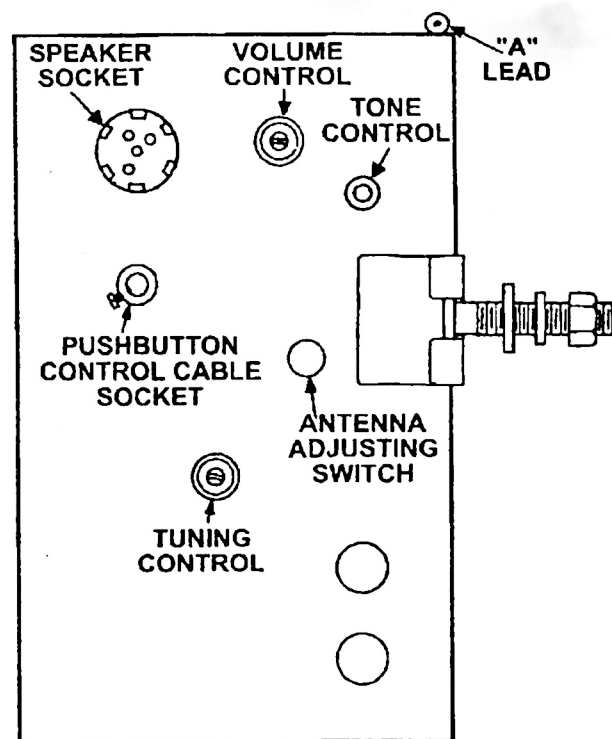
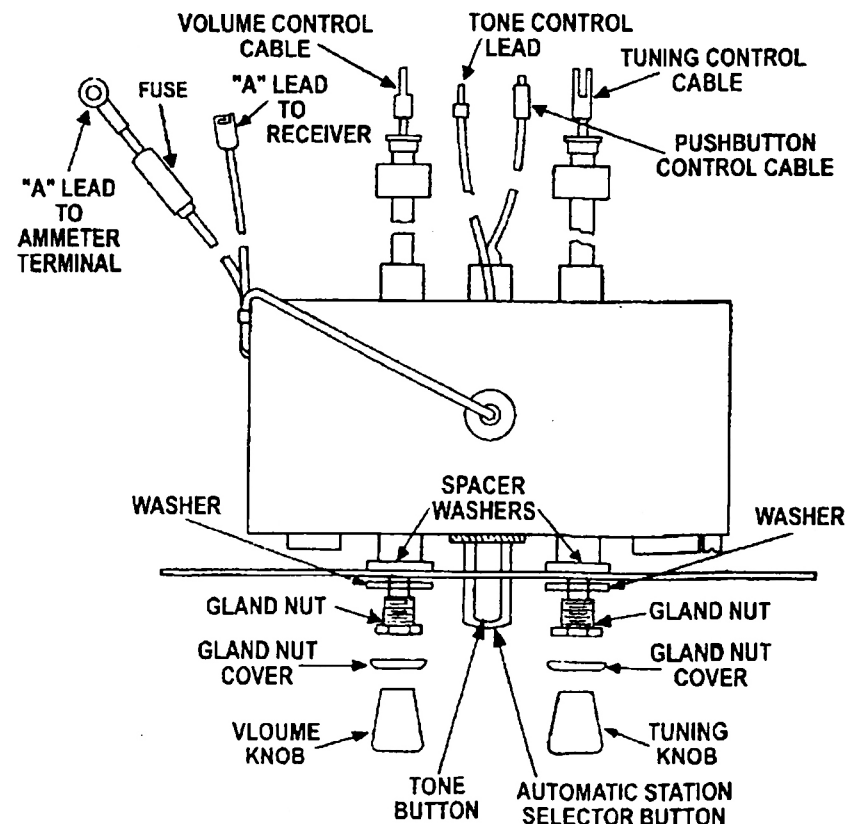

FIG. 3
FIG. 2
Bolt the control head and face plate to instrument panel using the two thin washers, included with this radio, between the gland nuts and the control shaft bushings (see Fig. 2). The gland nuts screw into the control shaft bushings and hold the control head and face plate in position.
The tenite face plate used in these models must be slipped into position from the side. In order to do this push the control head back until the shafts do not project out of the holes in the panel, then slide the face plate into position from the glove compartment side. Bolt the control head and face plate to the instrument panel using the two thick washers, included with this radio, between the gland nuts and the control shaft bushing (see Fig. 2). The gland nuts screw into the control shaft bushings and hold the control head and face plate in position.
11. Place the gland nut covers over the gland nuts (see Fig. 2) and then slide the two control knobs on the control shafts.
1. Insert the volume control cable in its proper coupling on the receiver case (see Fig. 3). As you do this, turn the volume (**LEFT**) knob to be sure the shaft engages, then tighten the shaft coupling collar at the receiver case.
2. Turn the tuning (**RIGHT**) knob, on the control head, clockwise until you reach appreciable resistance. Then turn this knob counter-clockwise one whole turn. Insert a small screwdriver in the coupling hole for the tuning shaft on the receiver case. Turn the slotted shaft in the tuning shaft bushing *clockwise* until you reach a stop. Then insert the flexible tuning control cable (see Fig. 2) into its coupling in the side of the receiver case (see Fig. 3). Turn the knob slightly clockwise until the shaft end engages and then tighten the shaft coupling collar at the receiver case.
3. Insert the flexible push button control cable into its socket on the receiver case (see Fig. 3). Before tightening the set screw on this socket, **PUSH**
7. Push the tone control plug into its proper socket on the side of the receiver case (see Fig. 3).
5. Connect the speaker cable plug to the socket on the end of the receiver case (see Fig. 3).